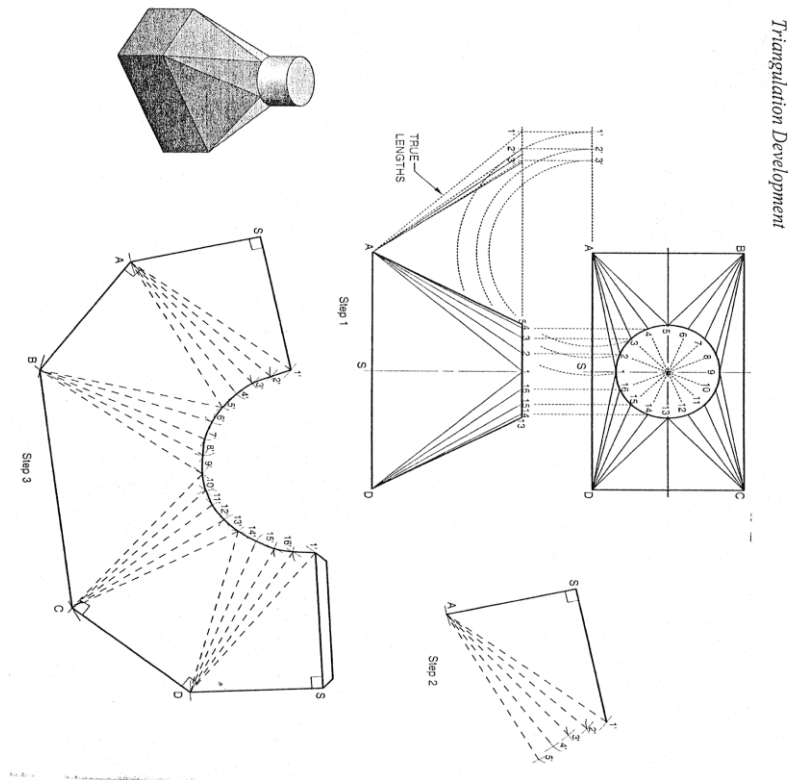

Figure 1.28. Triangulation of a warped transition piece joining a large, square duct and a small, round duct
1. Draw the top and front orthographic views (view a, figure 1.28.).
2. Divide the circle in the top view into a number of equal spaces and connect the division points with AD (taken from the top part of view D, figure 1.28).from point A. This completes one fourth of the development. Since the piece is symmetrical, the remainder of the development may be constructed using the lengths from the first part. It is difficult to keep the entire development perfectly symmetrical when it is built up from small triangles. Therefore, you may check the overall symmetry by constructing perpendicular bisectors of AB, BC, CD, and DA (view E, figure 1.28) and converging at point O. From point O, swing arcs a and b. Arc a should pass through the numbered points, and arc b should pass through the lettered points